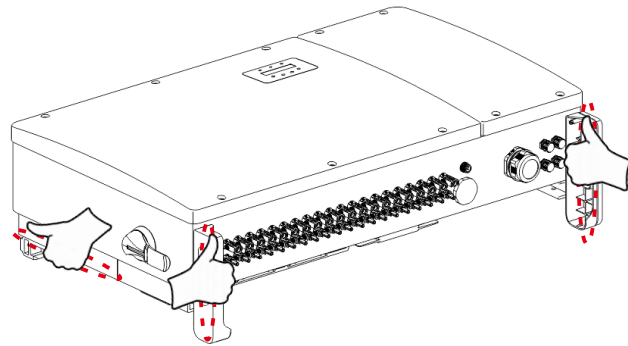

Figure 3.4 Inverter handles
2. Two people are required to remove the inverter from the shipping box. Use the handles integrated into the heat sink to remove the inverter from the carton (see Figure 3.4).